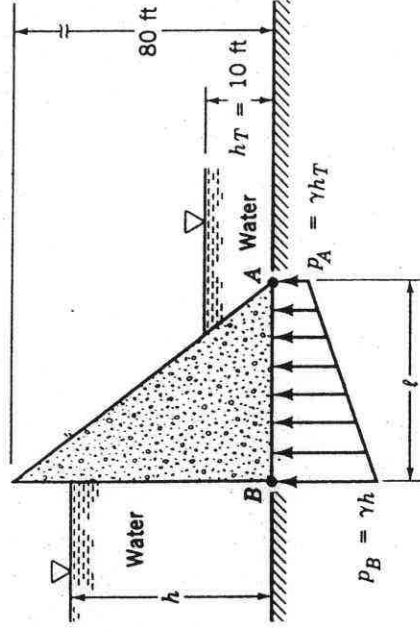

FIGURE P2.60
2.60* Water backs up behind a concrete dam as shown in Fig. P2.60. Leakage under the foundation gives a pressure distribution under the dam as indicated. If the water depth, h , is too great, the dam will topple over about its toe (point A). For the dimensions given, determine the maximum water depth for the following widths of the dam: $l = 20, 30, 40, 50,$ and 60 ft. Base your analysis on a unit length of the dam. The specific weight of the concrete is 150 lb/ft^3 .